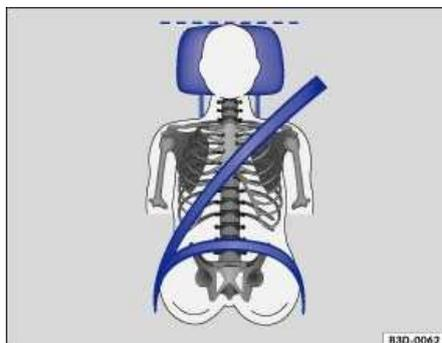
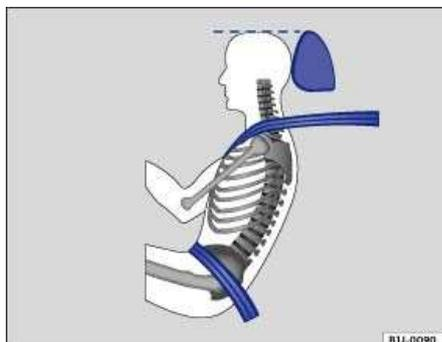

Fig. 50 Viewed from the front: properly adjusted head restraints and safety belts.
Fig. 51 Viewed from side: properly adjusted head restraints and safety belts.
- Adjust each head restraint according to the person's size, so that the upper edge is even with the top of the person's head, and not lower than eye level. The back of the person's head should also be as close to the head restraint as possible ⇒ Fig. 50 and ⇒ Fig. 51.